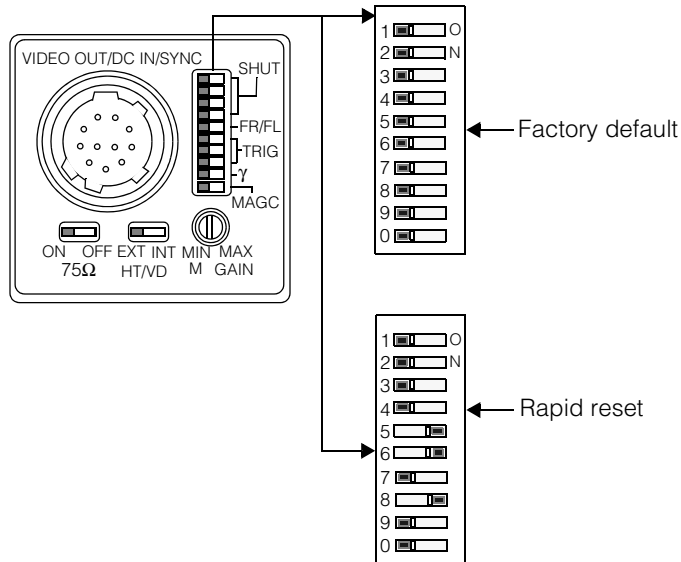

Figure 8. Sony XC-ES50 camera back panel
Figure 8 shows the back panel of the Sony XC-ES50 camera with the switches in their factory default and rapid reset modes. Note that if you set the XC-ST50 for rapid reset mode, you must also set a jumper on the MVS-8100, as described in *Using Rapid Reset Cameras* on page 17.
1. Configure the 10-position DIP switch as shown in Figure 8.